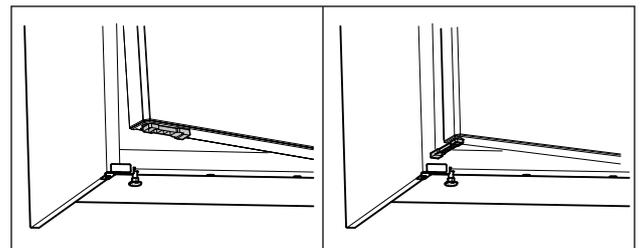

Fig. 59 *
- ▶ Turn the door opening limiter 90°. (see Fig. 59) *